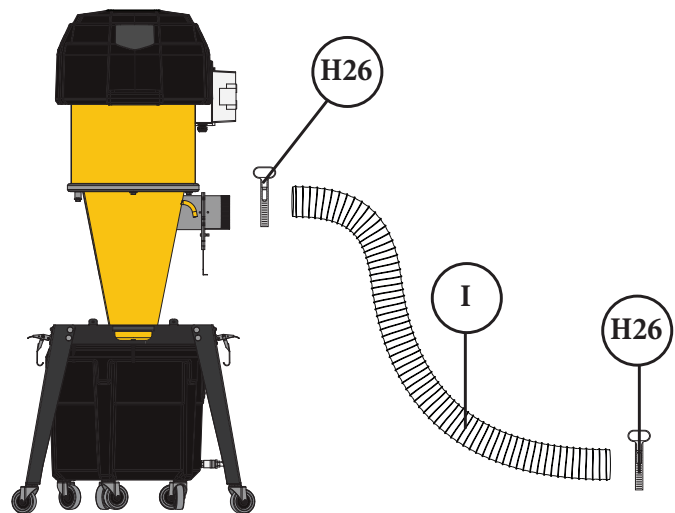

FIG. 27
Connect the Supercell to your tools or ductwork using the Vacuum Pressure-Rated Hose (I). Secure the hose in place using Hose Clamps (H26) at both ends [FIG. 27].